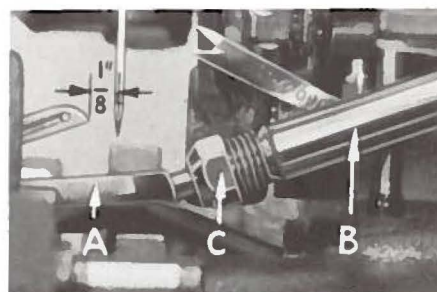

Fig. 4
At this point, insert lower looper (A, Fig. 4) into bar (B). With lower looper at left end of its stroke, set looper point $1/8$ inch from center of needle (Fig. 4), using looper gauge No. 21225- $1/8$. Do not have lower looper deflecting needle. Tighten nut (C).